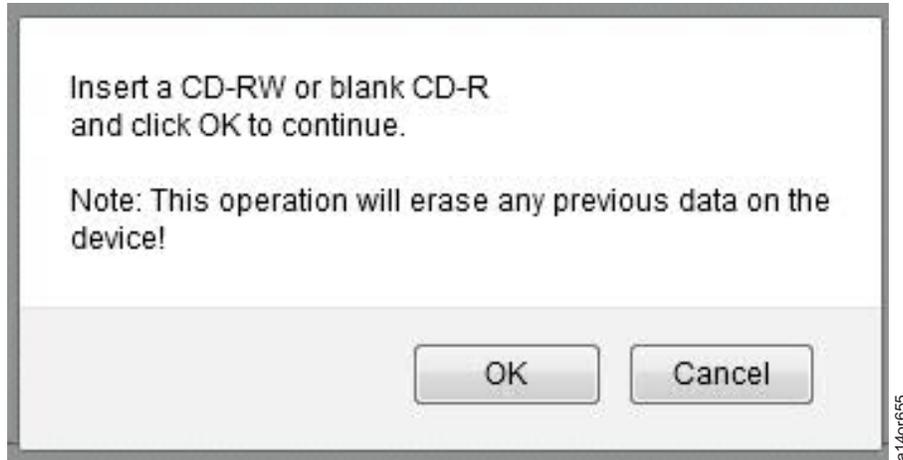

Figure 179. Call Home Queue Management – Offload Queue Entry to CD
9. Select **Offload Selected Entries to CD**. Figure 179 on page 139 displays.